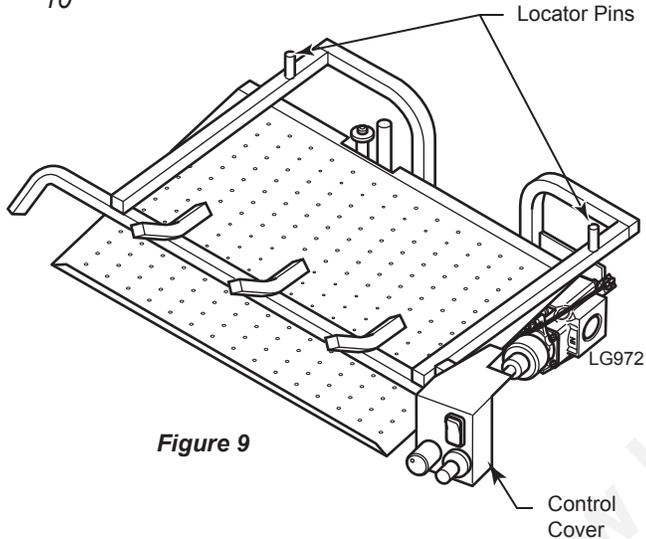
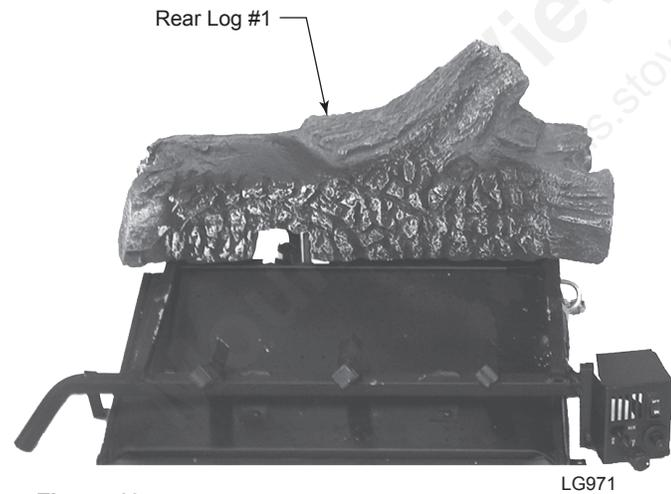

Figure 9
Figure 10
1. Install the rear log (#1) on the two locating pins of base. *Figure 9*. Visually check to verify the log is securely placed on the pins and in contact with the grate. *Figure 10*